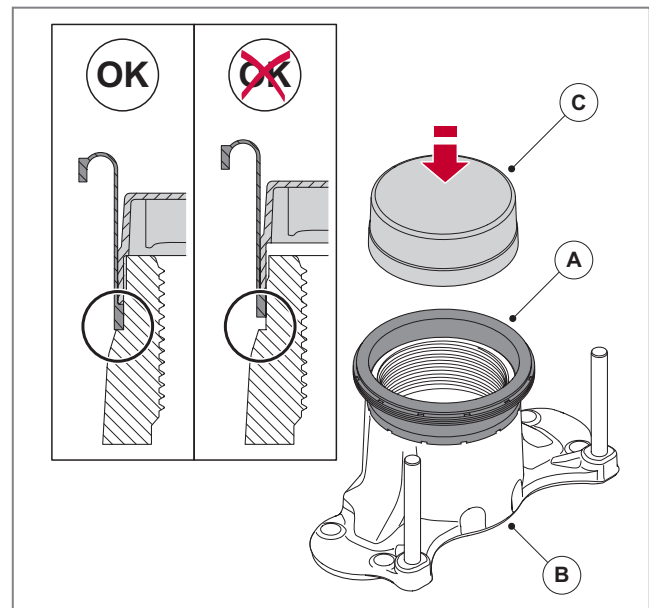

Fig. 51 - Fixing the thrust plate bellows
- Using SAF special tool P/N 4 434 3886 0 (C), press the adjustment screw bellows (A) into position on the thrust plate (B), see ► Fig. 51. Check that the bellows are correctly seated in position on the thrust plate.
14. Remove the special tool. Check that the bellows are correctly seated in the brake calliper, see ► Fig. 54. Double check that the bellows are correctly positioned on the thrust plate, see ► Fig. 51. Failure to seat the bellows correctly will compromise the service life of the brake!